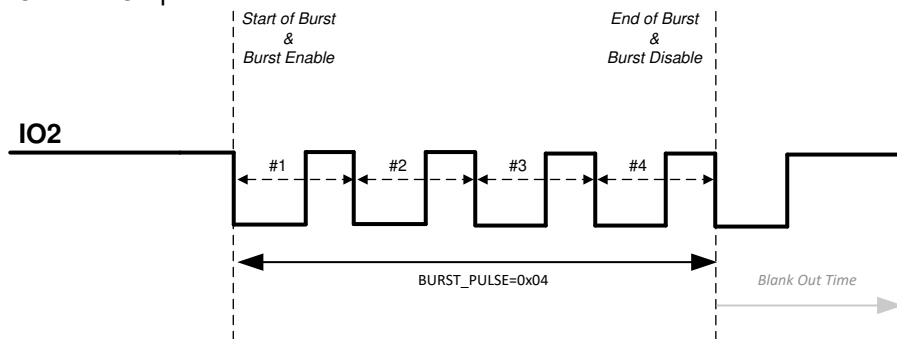

图 7-4. IO\_MODE 3 Description
- **IO\_MODE = 3:** In this mode, burst enable and start of burst are both triggered by the falling edge of IO2. TI recommends that IO2 pin is kept pulled up to VDD for this mode. The device then expects a clock at IO2 pin to generate pulses on the OUTA/OUTB pins (see 图 7-4). The number of pulses are counted by counting falling edge to next falling edge transitions on IO2 once the start of burst is triggered. End of burst sequence is signaled when the number of pulses defined in **BURST\_PULSE** are sent. After end of burst, a blank-out timer interval defined by the **DRV\_PLS\_FLT\_DT** register is started to prevent triggering of a new start of burst in the event if the IO2 pin is still toggling. After the start of burst, the state of OUTA and OUTB pins are determined by IO1 and IO2 pins.